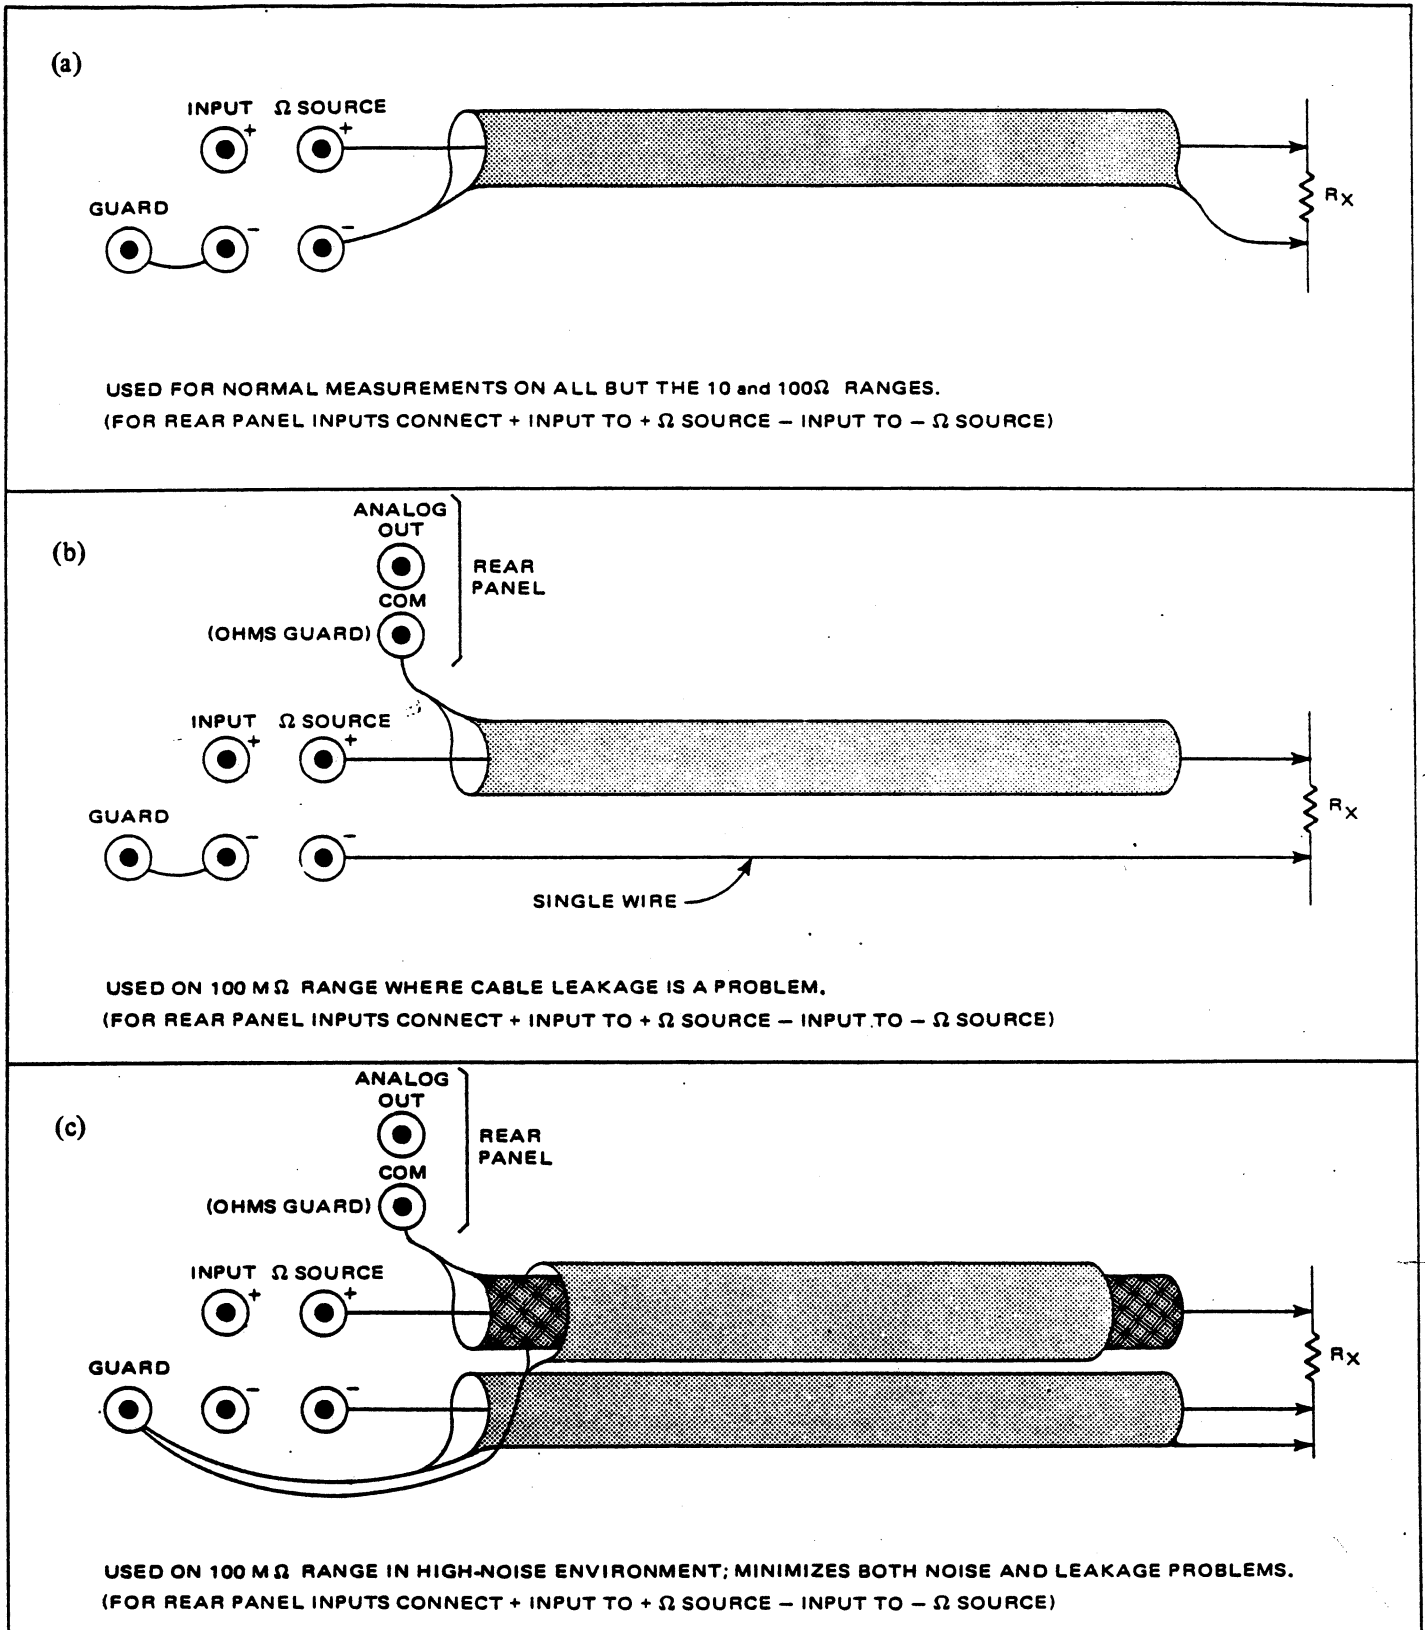

Figure 3.4 - Two Wire Ohms Measurements
a. Connections for a simple two-wire shielded ohms measurement are shown in Figure 3.4. It consists simply of a single-conductor shielded cable with the conductor serving as both the + Ω SOURCE and + INPUT leads and the shield carrying - Ω SOURCE and - INPUT. If front panel terminals are used, connections between + INPUT and + Ω SOURCE, and - INPUT and - Ω SOURCE can be made by setting the 2-WIRE/4-WIRE Switch to the 2-WIRE position. While reasonably accurate measurements can be made with this method, shunt leakage problems result from the parallel combinations of R_x and the cable impedance. This causes loss of accuracy, especially at high resistance (100 $M\Omega$ range). Also, lead resistance becomes a factor in the 1, 10 and 100 ohms ranges; the four wire measurement system is recommended for these ranges.